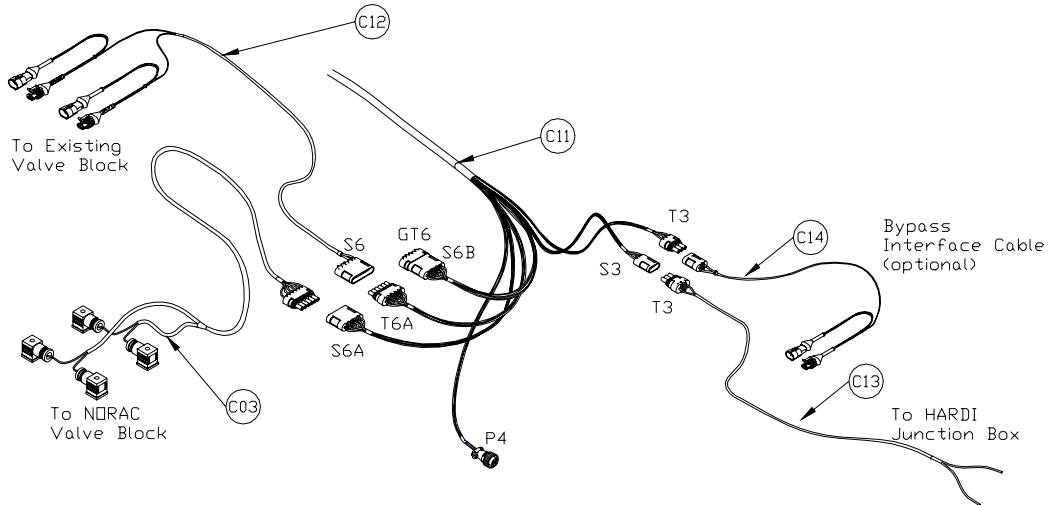

Figure 22 – Cable Configurations: C11, C12, C13 and C03
7. Connect the 6-pin shroud (S6) on the interface cable (C12) to the mating connector (T6A) on C11 (Figure 22).